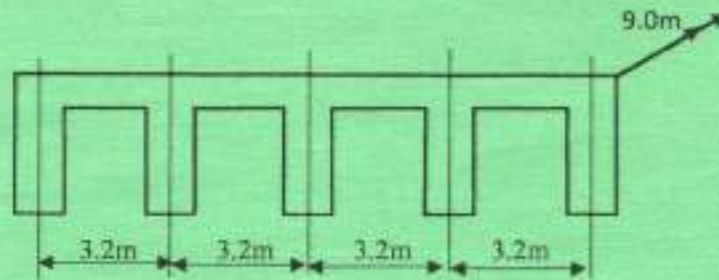

Fig. 6
6. Design for flexure and detail the section of a reinforced concrete slab shown in figure 6 using the following information: